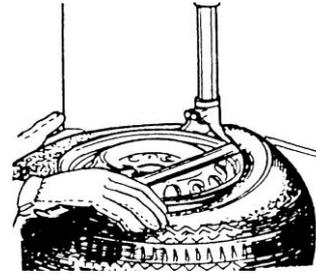

Fig 8
- 3) Insert the lifting lever between the tyre bead and the front section of the mounting head, and move the tyre above the mounting head shown as Fig 8.
- Note: In order not to damage the inner tube, it is recommended to perform this step with the inner tube valve stem positioned about 10 cm to the right of the mounting head. With the lifting lever held in position shown as Fig 8, rotate the turntable in a clockwise direction by fully depressing the reverse pedal. Continue until the tyre is completely separated from the wheel rim. To prevent accident, keep hands and other parts of your body away from moving devices during operation.
- Note: The tyre can be slid out easily from the mounting head due to hardness. In order to prevent it, with the lifting lever held in position shown as Fig 8, rotate the turntable about 1~2 cm in anti-clockwise direction before rotating in clockwise direction.